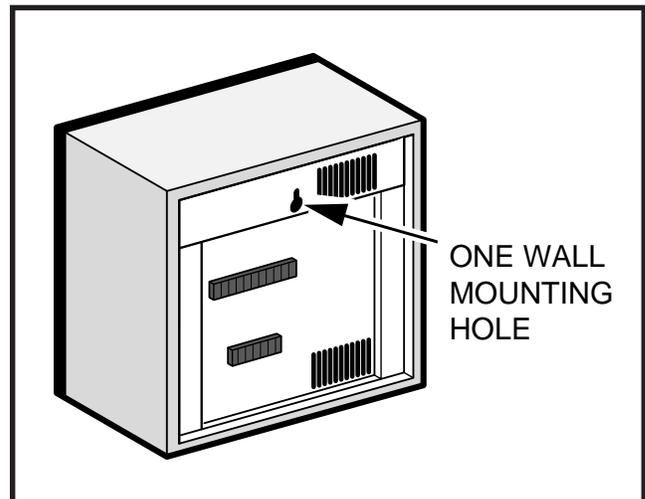

FIGURE 8-16—HESB WALL MOUNTING
5.27 HESB Wall Mounting. Some applications may require that the HESB is mounted on a wall or other vertical surface. Mount the HESB in accordance with the following steps (Figure 8-16):